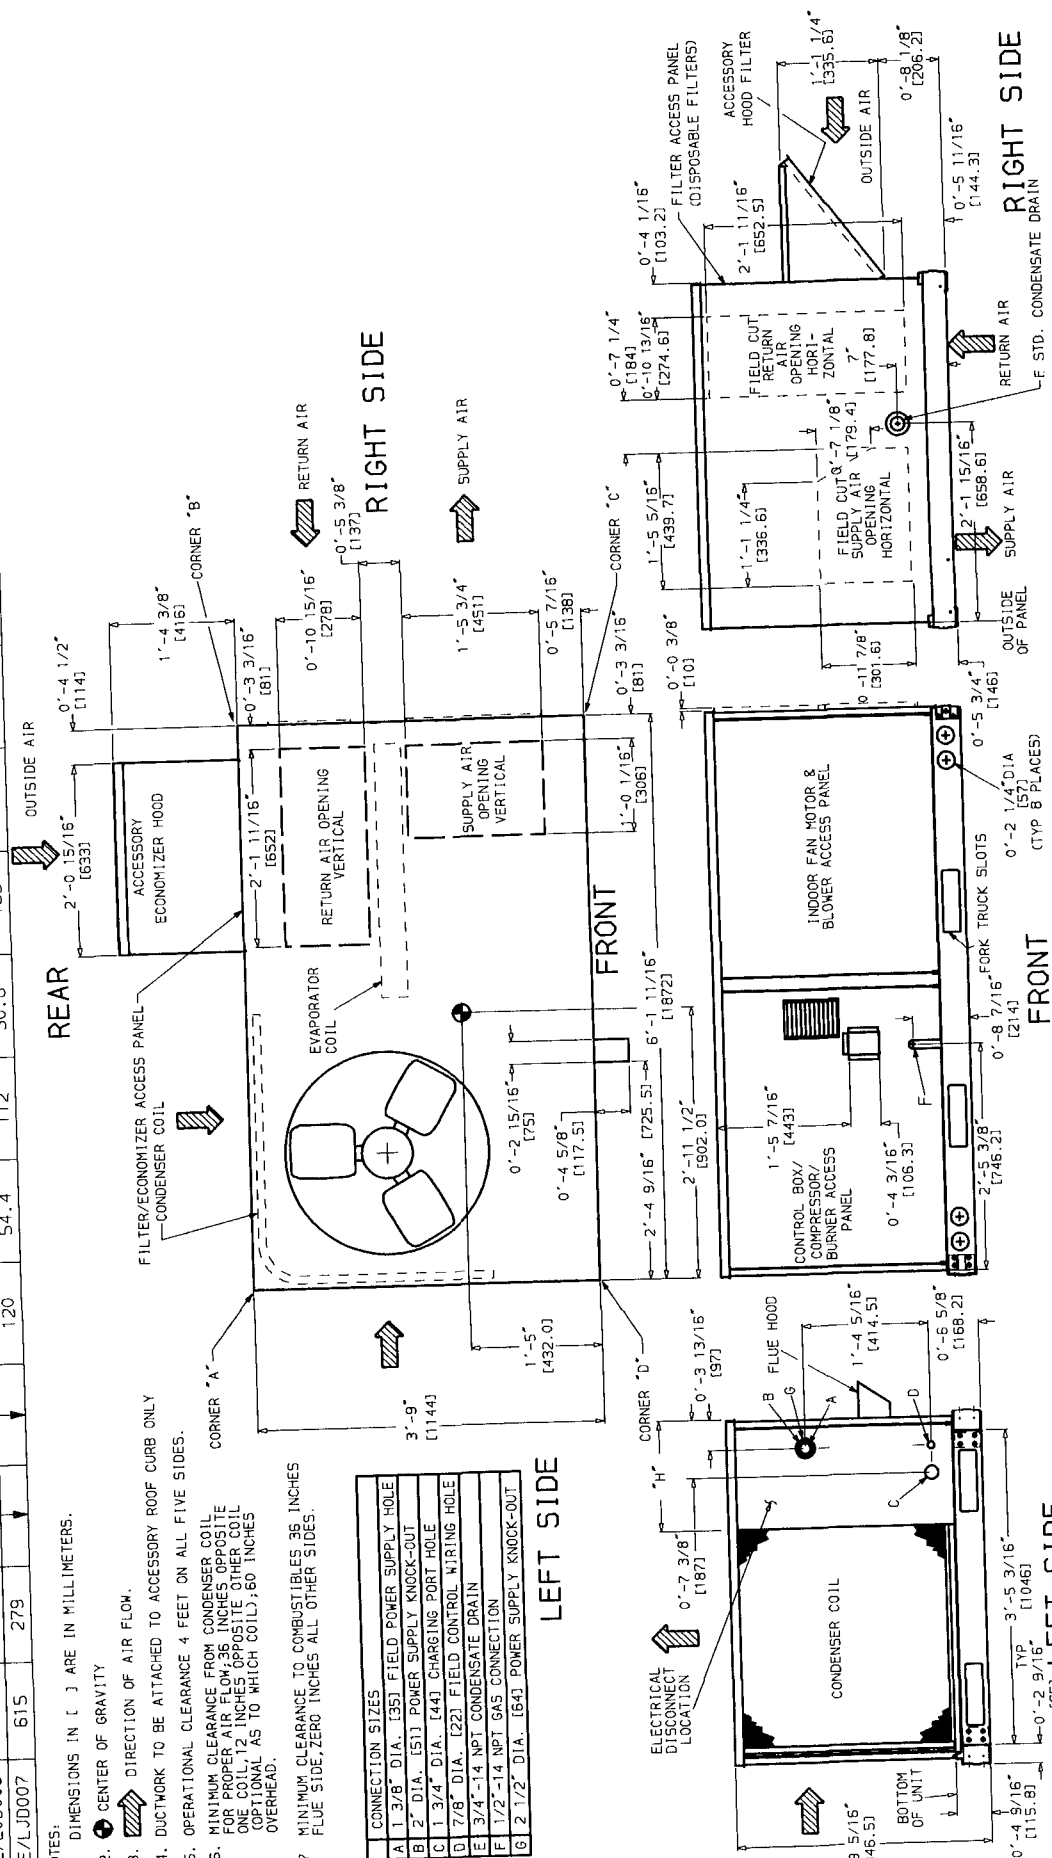
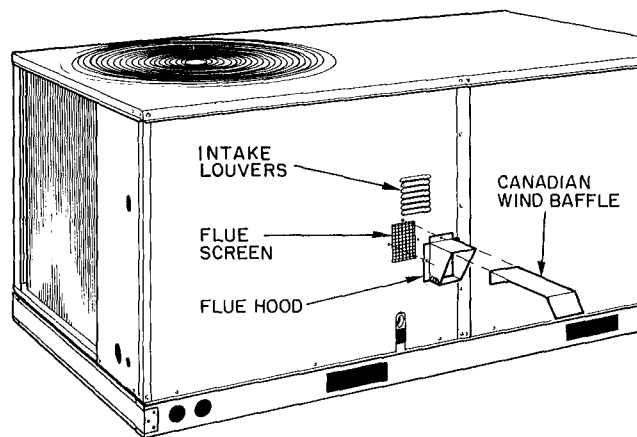

Fig. 6 — Base Unit Dimensions
**Fig. 7 — Flue Hood Details**
Lifting holes are provided in base rails as shown in Fig. 6. Refer to rigging instructions on unit.
**POSITIONING —** Maintain clearance around and above unit to provide minimum distance from combustible materials, proper airflow and service access. See Fig. 6 and 7. A properly positioned unit will have the following clearances between unit and roof curb:  $\frac{1}{4}$ -in. clearance between roof curb and base rails on each side and front of unit;  $\frac{3}{4}$ -in. clearance between roof curb and rear of unit. (See Fig. 2, section C-C.)
**Step 5 — Install Flue Hood —** Flue hood and screen are shipped screwed to the burner compartment access panel. Remove from shipping location and using screws provided, install flue hood and screen in location shown in Fig. 6 and 7. On Canadian units only, install a 40-mph wind baffle as shown in Fig. 7.
Install conduit through side panel openings indicated in Fig. 6. Route power lines through connector to terminal connections as shown in Fig. 9.